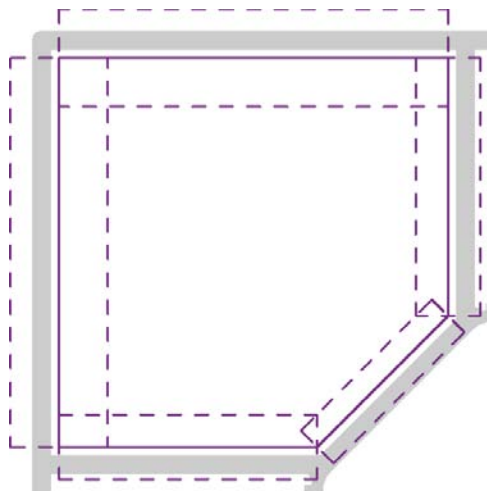

Figure 7.33
1. Double-click the Floor Plan Level 7 view to make it the current view. Click the In-Place Mass tool, and name the new mass Screen. Click Reference and then Line from the Draw panel. Sketch a chain of reference planes, as shown in Figure 7.33. The